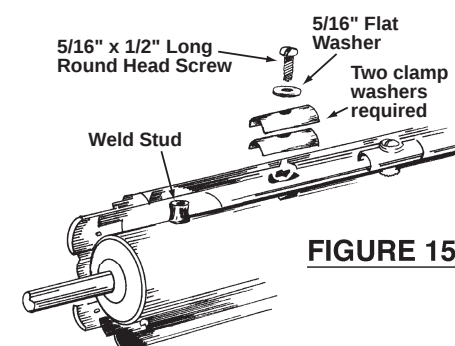

FIGURE 15
- If the barrel has studs, the top slat will have slots to attach to barrel. Hook curtain over studs and fasten with 5/16" round head screws and washers and **TWO** clamp washers provided. See Figure 15.